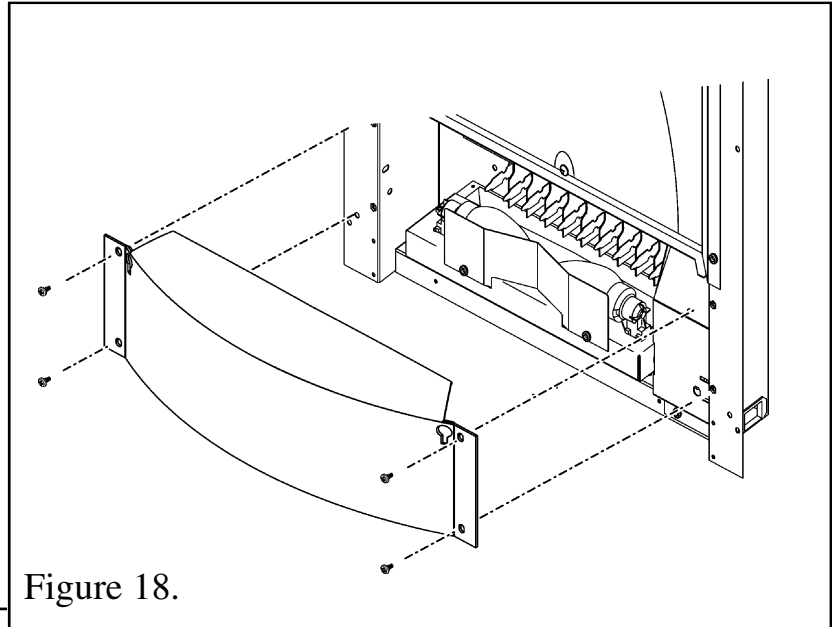

Figure 18.
1. The fuel support must be fitted to the heater before fitting the fascia assembly. To do this, align the four holes in the fuel support with those on the heater (See figure 18). Secure with the four screws supplied.